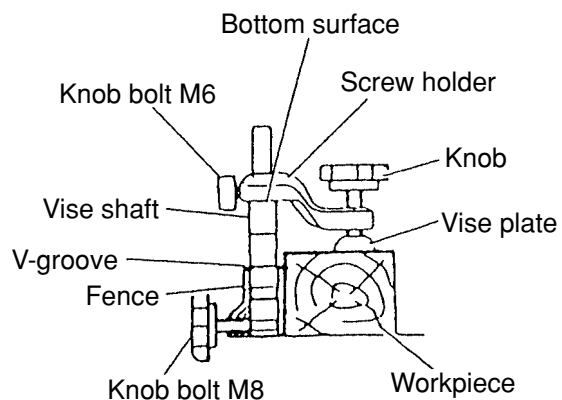

Fig. 31
- (1) The vise assembly can be mounted on either the right or left fence. The height of the vise can be adjusted in three stages by aligning either the V-grooves on the vise shaft or the bottom surface of the screw holder with the upper surface of the fence, and fitting the tip of the knob bolt M8 into the appropriate groove on the vise shaft. On completion of adjustment, tighten the knob bolt M8 to secure the vise shaft. (See Fig. 31.)
- (2) After adjusting the position of the screw holder, lock it in position by tightening the knob bolt M6.
- (3) Then the knob to thoroughly clamp the workpiece.